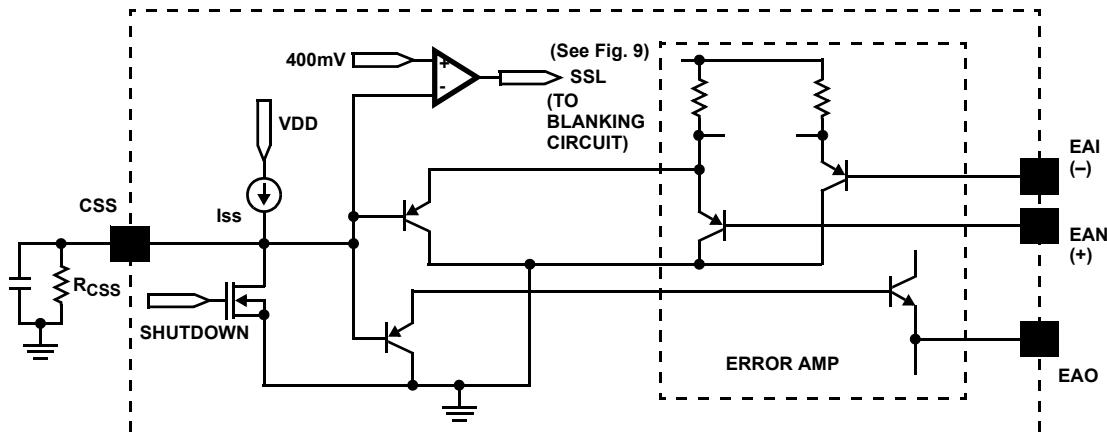

FIGURE 4. SIMPLIFIED CLAMP/SOFT-START
- Both EANI and EAO are clamped by the voltage (V_{clamp}) set at the CSS pin, as shown in Figure 4. Note that the diodes in the functional block diagram represent the clamp function of the CSS in a simplified way.
- The clamping voltage determines the cycle-by-cycle peak current limiting of the power supply. It should be set above the EANI and EAO voltages and can be programmed by an external resistor as shown in Figure 4 using Equation 3.
incorporated. The current ramp is blanked out during the resonant delay period because no switching occurs in the lower FETs. The leading edge blanking function will not be activated until the soft-start (CSS) reaches over 400mV, as illustrated in Figures 4 and 9. The leading edge blanking (LEB) function can be disabled by tying the R_{LEB} pin to VDD, i.e., LEB=1. Never leave the pin floating.